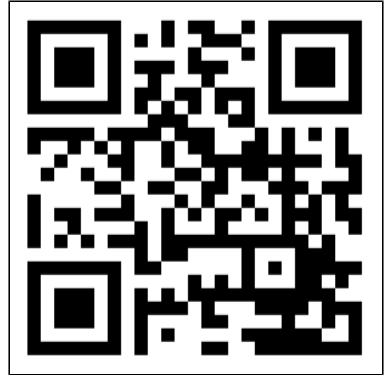

Figure 42.
1. Open the Eurom Smart App manual with the QR code (Figure 42) or go to www.eurom.nl/nl/manuals.